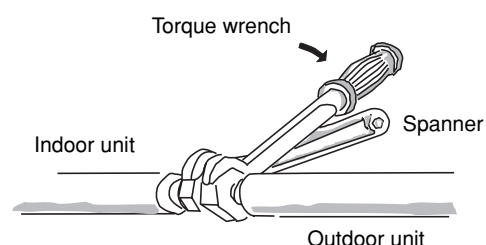

Fig. 5-6
- (1) Tightly connect the indoor-side refrigerant tubing extended from the wall with the outdoor-side tubing.
- (2) To fasten the flare nuts, apply specified torque as at right:
- When removing the flare nuts from the tubing connections, or when tightening them after connecting the tubing, be sure to use 2 adjustable wrenches or spanners as shown. (Fig. 5-6)